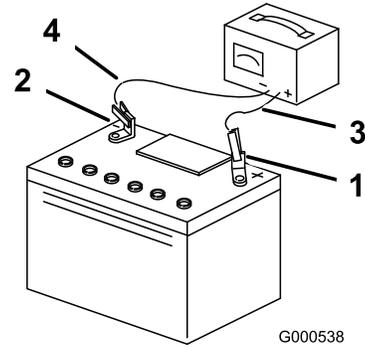

Figure 41
- 3. When the battery is fully charged, unplug the charger from the electrical outlet, then disconnect the charger leads from the battery posts (Figure 41).